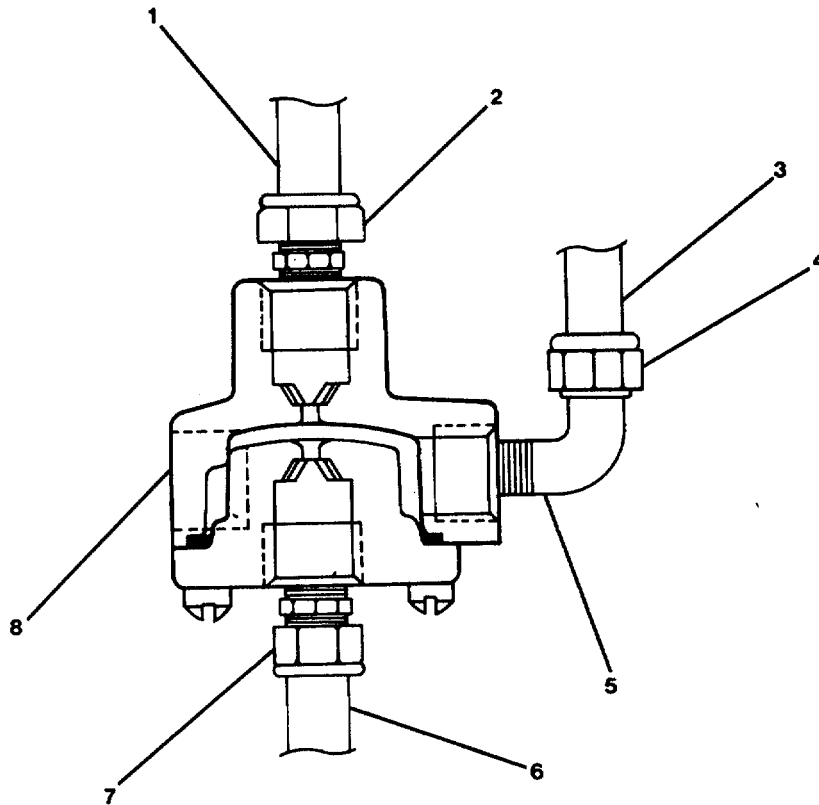
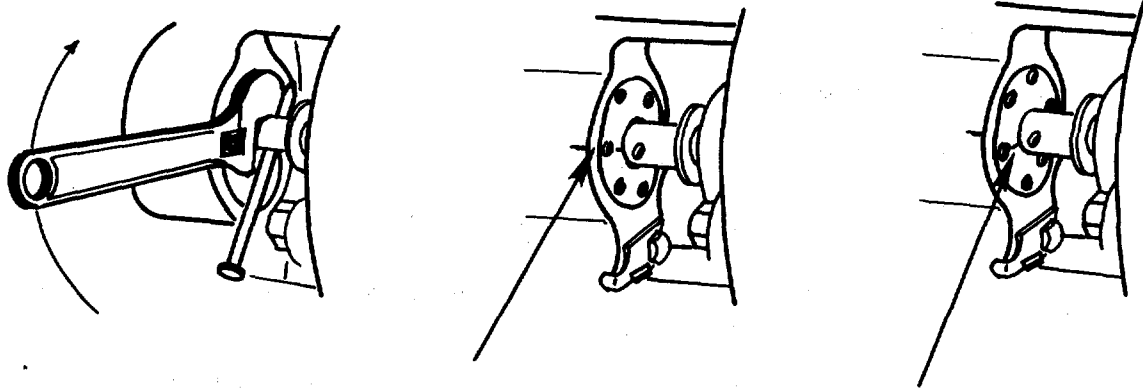

FIGURE 3-92. *Fresh Water Centrifugal Pump.*
FIGURE 3-93. *Impeller Running Clearance Adjustment.*
**DISASSEMBLY** (Figure 3-92)
- a. Remove four hex head capscrews (1).
- b. Remove two pipe plugs (8).
- c. Remove plug (3).
- d. Remove case (2).
- e. Remove rubber bushing (5).
- f. Remove two machine screws (7).
- g. Remove pump raceway (6).
To assist removal of centrifugal pump impeller retaining hex nut, the pump shaft is held stationary by placing-either a screwdriver or nail of suitable size through hole provided on the close coupled pump shaft (Figure 3-93).
- h. Install screwdriver or nail through hole in pump shaft (11, Figure 3-92).
- i. Remove hex plain nut (9).
- j. Remove impeller (10) by pulling straight off shaft.
- k. Remove key (12).
- l. Remove preformed packing (4).
- m. Remove plain seal (14).
- o. Remove four hexhead capscrews (19).
- p. Separate pump shaft (11), impeller adjustment screw (16), annular ball bearing (21) and pump frame (13) as a unit from motor shaft (22) and motor housing flange (20).
- q. Remove hex head capscrew (17).
- r. Remove pump lock (18).
- l. Install key (12).
- m. Install impeller (10).
- n. Install hex plain nut (9).
- o. Install pump raceway (6).
- p. Install two machine screws (7).
- q. Install rubber bushing (5).
- r. Install case (2).
- s. Install plug (3)
- t. Install two pipe plugs (8).
- u. Install four hex head capscrews (1).
- v. Adjust impeller running clearance (Figure 3-93).